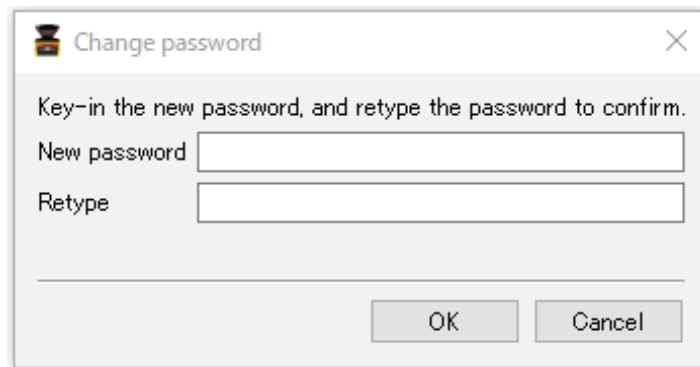

Figure 7-41 Password change
- Window as shown in figure 7-41 will be displayed.